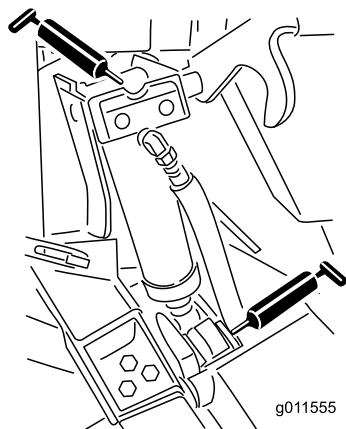

Figure 73
- 4 lift-cylinder bushings (Figure 73)